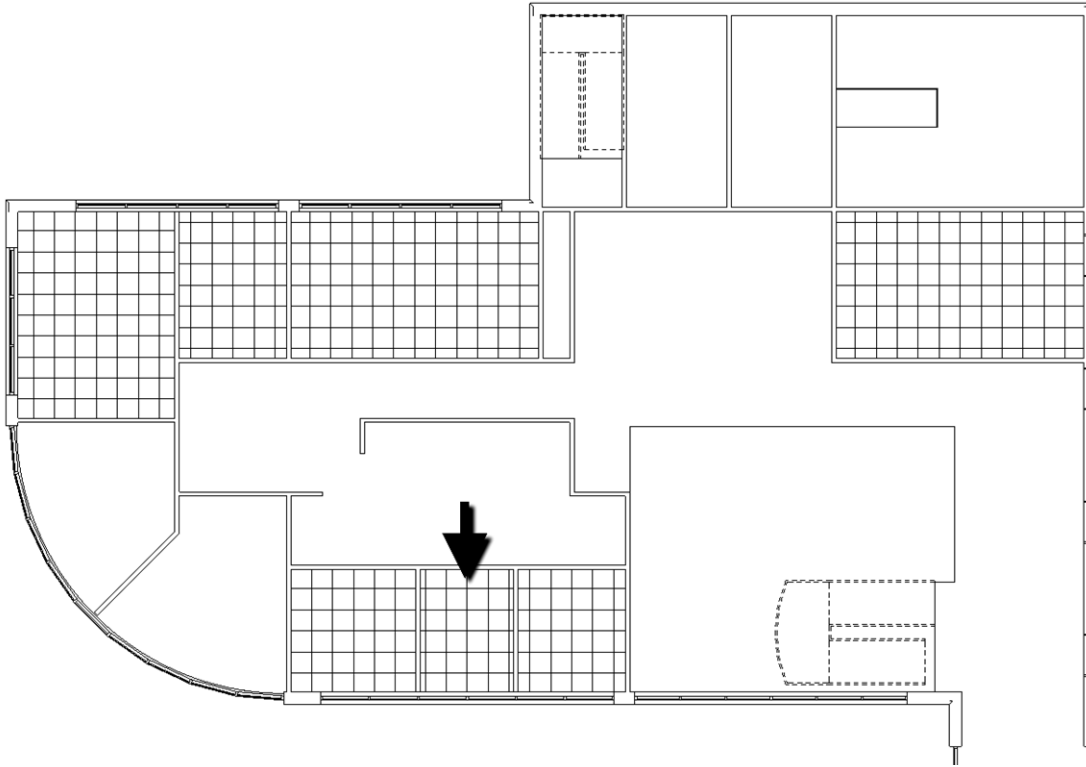

FIGURE 7-4.6: Level 1 Ceiling Plan view: 2'x2' suspended acoustical ceiling tile added to rooms.
9. Use the **Ceiling** tool to place 2' x 2' acoustic ceiling tile (ACT) at 8'-0" above finished floor (AFF) in the rooms shown (Figure 7-4.6).
When you place a ceiling grid, Revit centers the grid in the room. The general rule of thumb is you should try to avoid reducing the tile size by more than half of a tile. You can see in Figure 7-4.6 that the East and West sides are small slivers for the center office on the South exterior wall. You will adjust this next.
11. **Select** the ceiling grid identified in Figure 7-4.6. Only one line will be highlighted.